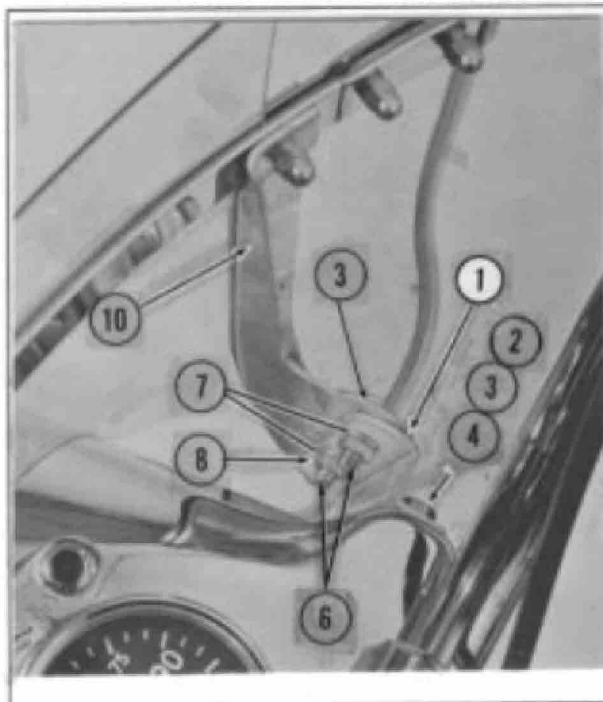

Figure 1. Right side view
2. See Figure 1. Install right fork bracket (1) using two 5/16 x 1/2 in. hex bolts (2), 5/16 lockwashers (3) and 5/16 x 7/8 x 5/64 in. washers (4) supplied in kit.
4. See Figures 1 and 2. Attach windshield assembly (5) by bolting right and left windshield adjusting brackets (1) to fork mounting brackets using 5/16 x 7/8 in. hex bolts (6), 5/16 in. lockwashers (3), 5/16 x 11/16 x 1/16 in. washers (7) and 5/16 nuts (8).